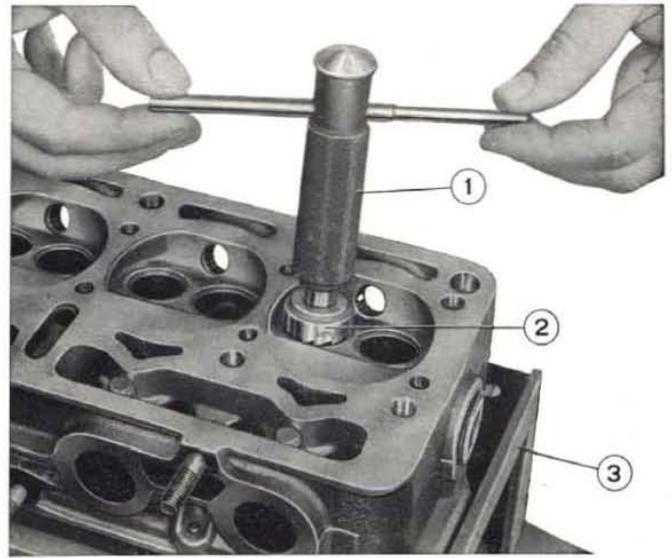

Fig. 93 - Using 20° cutter to narrow valve seats.
- Operate the cutter (fig. 93).